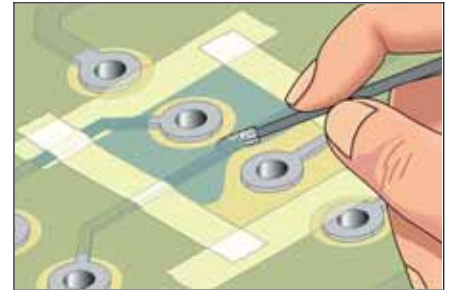

Figure 1 Apply replacement coating with foam swab to create a texture.
2. If needed, apply Polyimide tape to outline the area where the coating will be applied. (See Figure 1.)